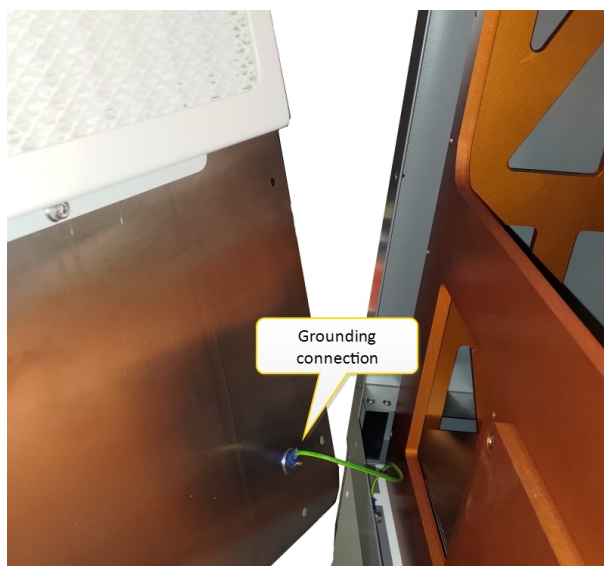

Figure 4-25 Grounding connection
- 4.4. Remove the grounding connection Figure 4-25.